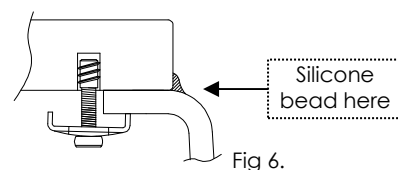

Fig 6.
9. Place the worktop, sink and tap carefully onto the kitchen carcasses. Where possible apply a 2nd bead of silicone around inside of the sink and worktop joint as shown in Fig. 6. Any excess silicone can be cleaned away using a proprietary silicone cleaner. Allow the silicone to dry.